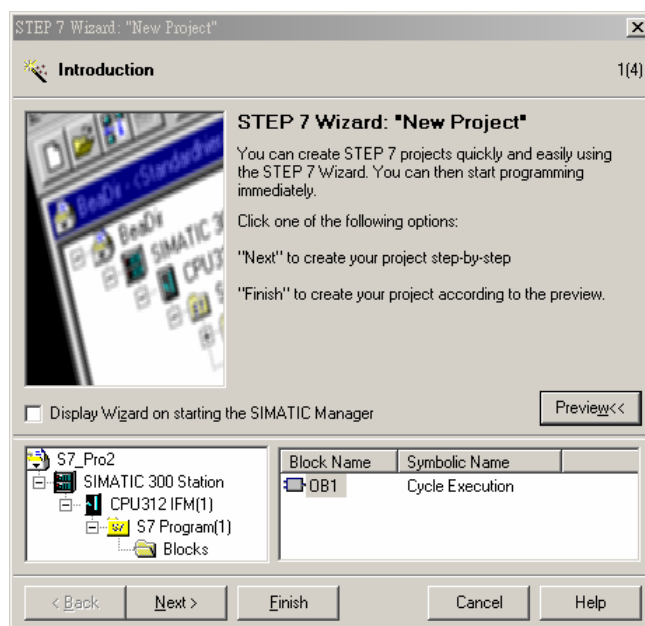

Figure 10-4
3. Click "Next" in the wizard, as Figure 10-4.